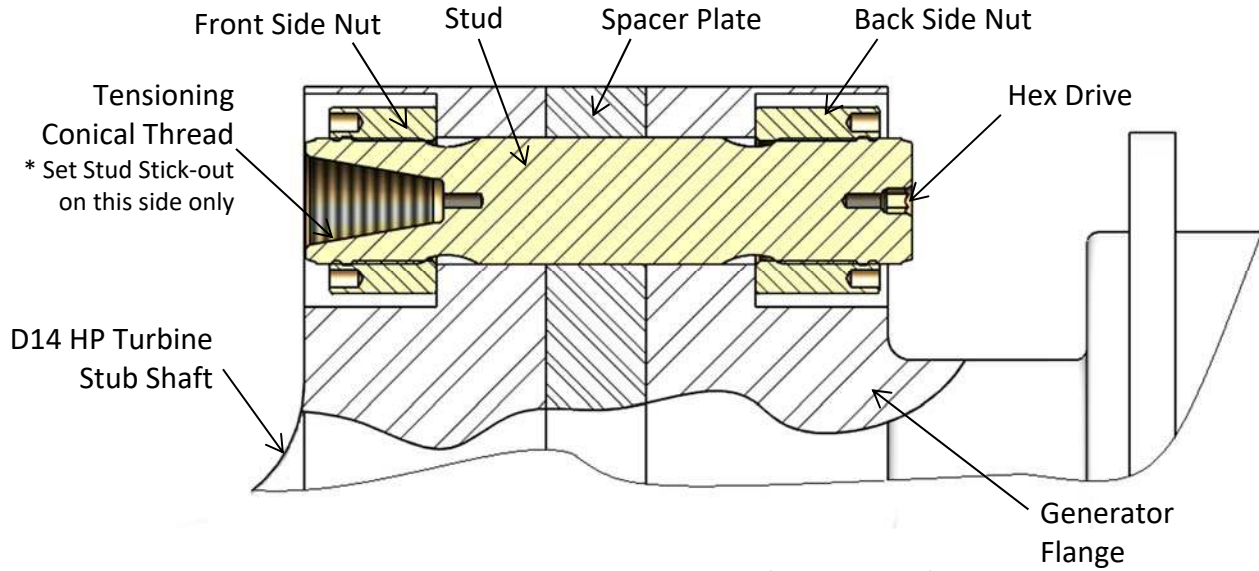

Figure 6A – Cross-section View of HP Stub Shaft to Generator Flange Connection
4. Slide the stud, and nut into the flange as shown in Figures 6A, 6B, and 6C.